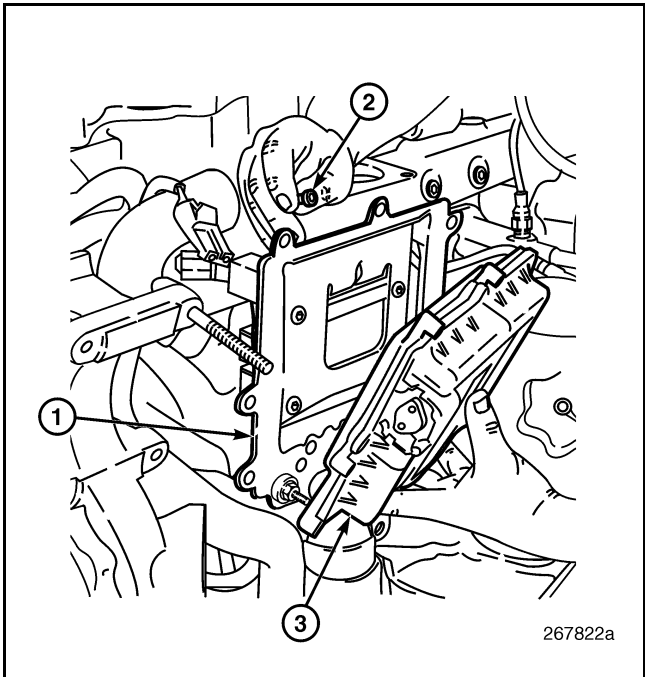

Figure 462 — EECU Removal/Installation
5. Carefully remove the EECU from the cooling plate (Figure 462). The cooling plate can remain attached to the inlet and coolant manifolds providing the plate is not being replaced. If the plate is to be replaced, continue on with the next step.
5. Make sure the cooling plate and EECU mating surfaces are clean. Place the EECU in position on the cooling plate and install the eight retaining bolts. Tighten the bolts to specification (Figure 462).